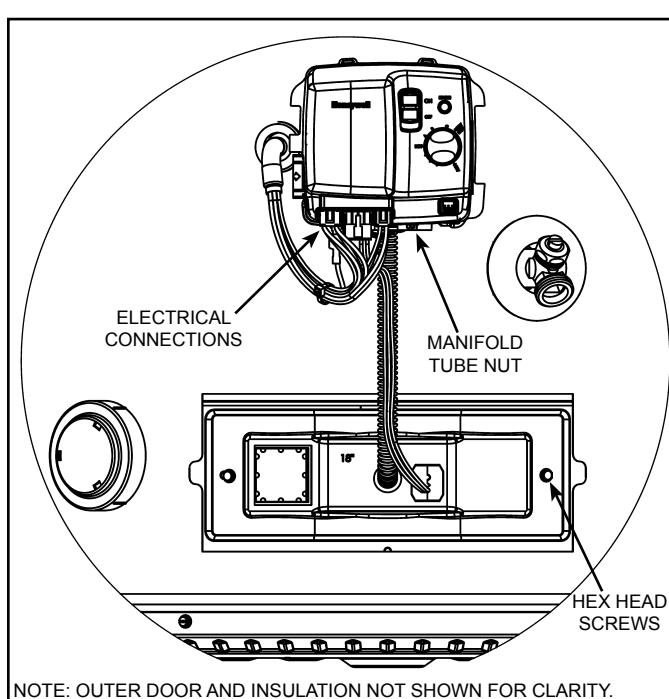

Figure 11
5. Unplug all the electrical connections from the bottom of the gas control valve/thermostat (see Figure 11).
6. Using a 3/4" open end wrench remove the manifold tube from the gas control valve/thermostat (turning counter-clockwise for natural gas, clockwise for L.P.). Grasp the manifold tube and push down slightly to free the manifold tube from the gas control valve/thermostat (see Figure 11).
8. Use a 1/4" nutdriver or 1/4" socket & ratchet to loosen the 2 hex head screws on the inner door so the inner door/manifold/burner assembly can be removed (see Figure 11).
2. After confirming no materials of any type are between door gasket and combustion chamber shield, align the screws on the inner door with the screw holes on the combustion chamber and tighten with 1/4" nutdriver or 1/4" socket & ratchet (see Figure 11). After tightening the inner door screws, visually inspect area around door gasket and skirt for spaces or gaps. The door gasket MUST be sealed completely in order for the water heater to perform properly. DONOT OPERATE THE WATER HEATER IF THE DOOR GASKET DOES NOT CREATE A SEAL BETWEEN MANIFOLD DOOR AND COMBUSTION CHAMBER.
Reconnect the manifold tube to the gas control valve/thermostat (**Note:** Do Not apply any thread sealant at this connection). To prevent any cross threading the manifold tube should be started by hand (turn clockwise for natural gas, counter-clockwise for L.P.). Upon tightening with the fingers and confirming it has not been cross threaded, tighten nut with an 3/4" open end wrench (see Figure 11).